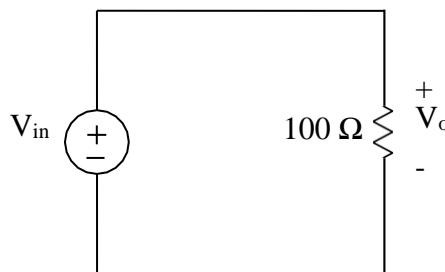

Figure 3.2 Theoretical model of a voltage source with 100Ω resistive load.
- A. Given the voltage source in the following circuit (Figure 3.2) is a practical (non-ideal) source, do you expect V_o and V_{in} to have the same value? Explain your reasoning.